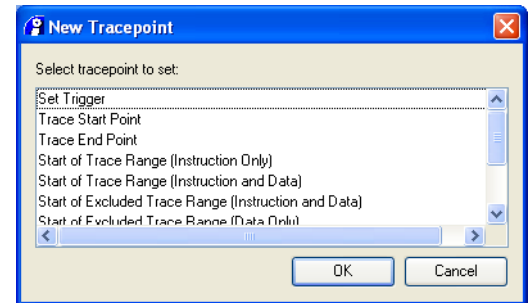

Figure 6-1 New Tracepoint dialog box
2. Select **Insert Tracepoint...** from the context menu to display the New Tracepoint dialog box. Figure 6-1 shows an example: